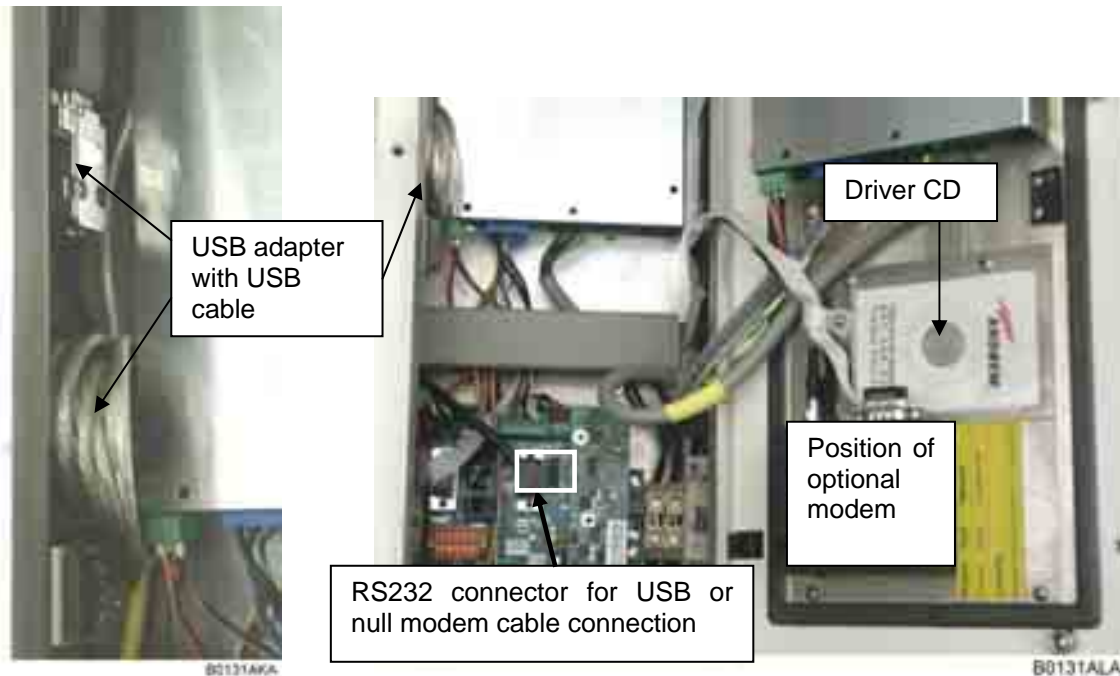

figure 4-3 USB and null modem cable connection
1. Install the USB to serial adapter in the computer. The USB adapter is part of the delivery and is already connected to the RS232 connector of the distribution & alarm board (see *figure 4-3*). For the first connection, install the correct driver from the CD (see chapter 4.2.3.2 *Installing the USB driver*). For the connection via null modem cable, disconnect the USB connector from the RS232 connector (see *figure 4-3*) and connect the null modem cable.